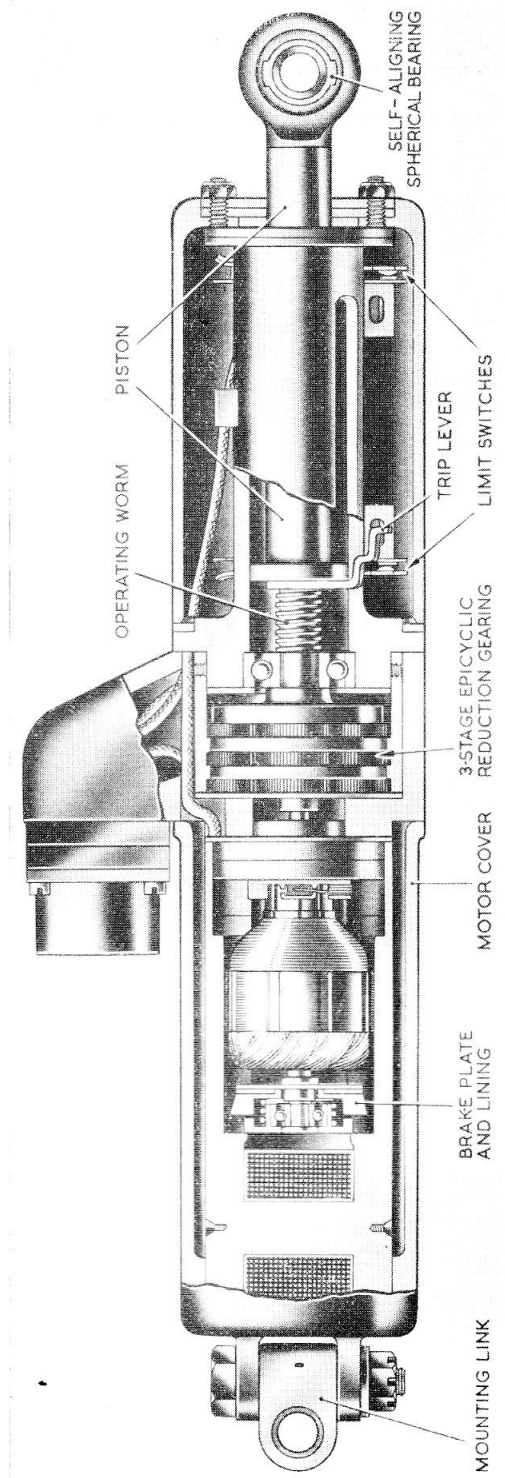

Fig. 1. Sectional View of Actuator.
4. The brake (fig. 1) comprises a spring loaded brake plate with a friction lining on one face. The lined face is adjacent to the face of the brake disc, which is integral with the motor armature shaft. The brake plate can move only longitudinally, and the brake disc rotates with the motor.